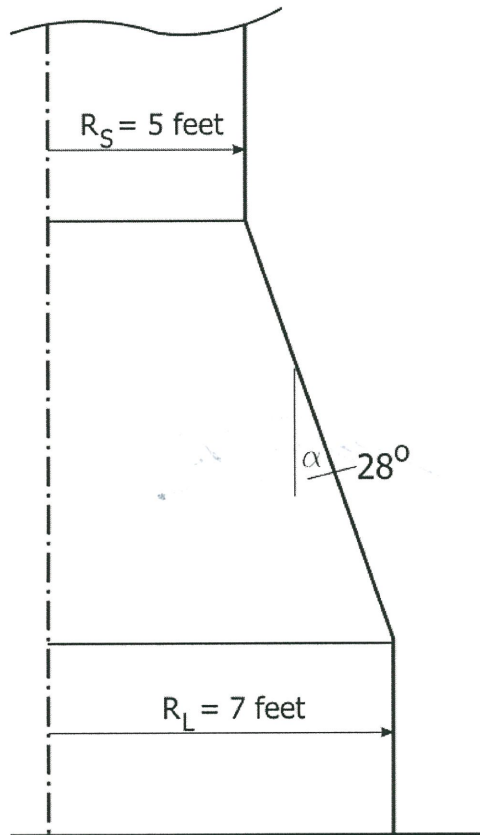

Figure Q3
Q3 According to ASME Section VIII Pressure Vessel Codes, conical shell and transition sections have a variety of configuration. **Figure Q3** shows the cone, the two cylinders, and the area at the cone-to-cylinder junctions. Axial compressive load at cone vicinity from mounted equipment is 50 kips. The design data are given in **Table Q3**.
- (d) Propose your design of the reinforcing ring by modifying the **Figure Q3**.